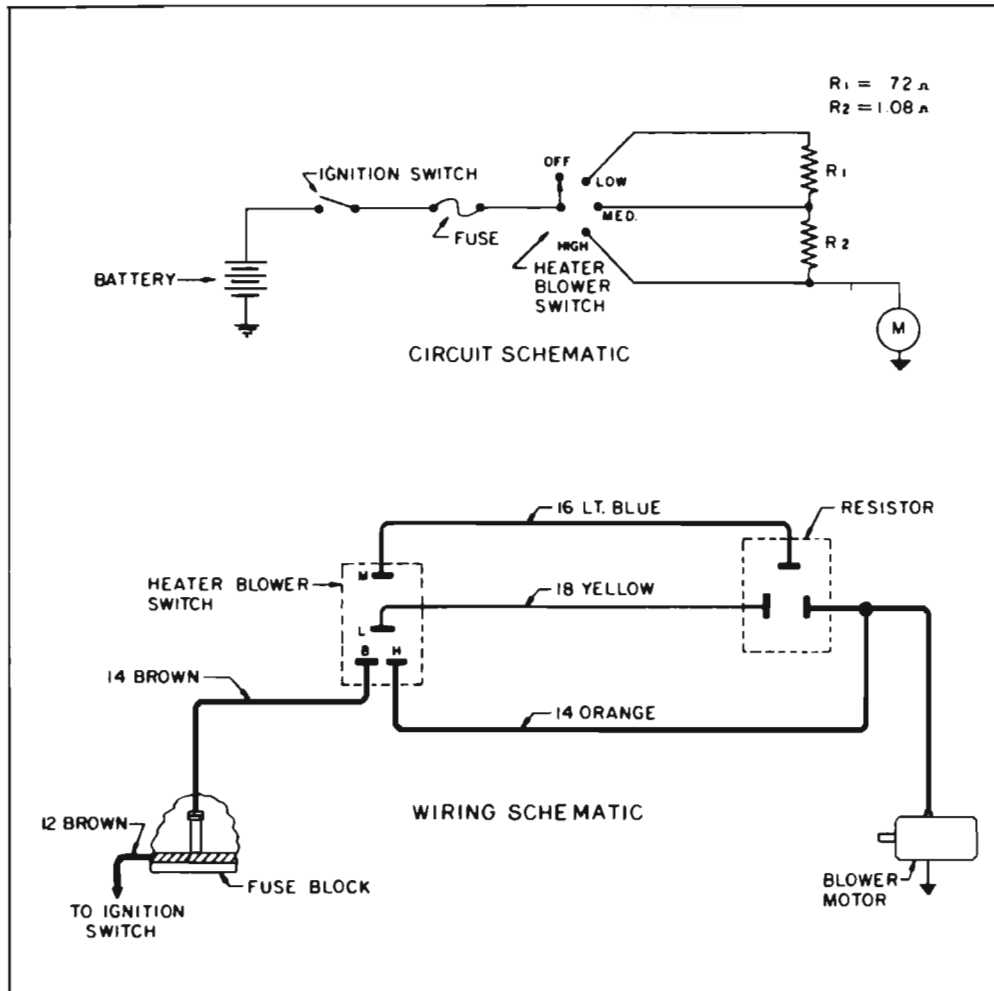

Figure 11-11—Heater System Wiring Diagram and Schematic
1. Blower and Air Inlet Assembly—The blower and air inlet assembly draws outside air through the outside air inlet grille located forward of the windshield reveal molding and channels the air into the heater assembly. The operation of the blower motor is controlled by a FAN switch on the heater control. The motor is connected in series with the three position FAN switch and also the blower resistor assembly (see Figure 11-11). A 30 amp fuse, located in the fuse block, is in series between the blower motor and the battery.